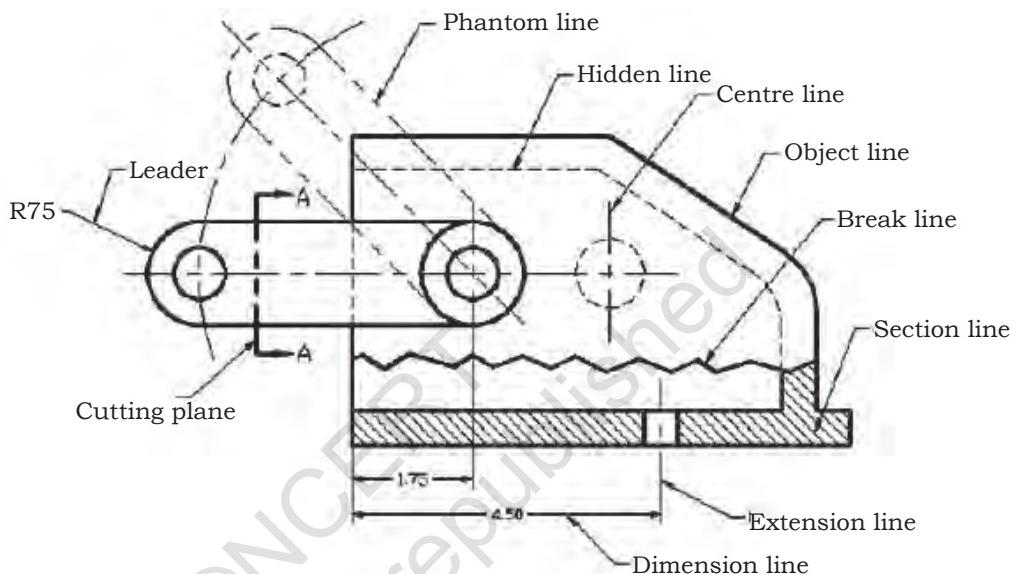

Fig. 6.28: Line conventions in engineering drawing
**Example:** Line conventions in engineering drawing (Fig.6.28)